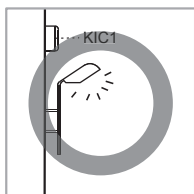

FIG.1
- Avoid any artificial illumination sources to aim at CDS-20K directly such as the connected lightings (See FIG.1).